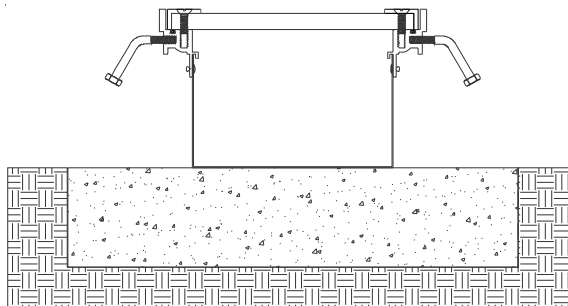

Figure 3
**STEP 4.** Assemble the trench cover on the support pad, splicing the liner and frame sections of the assembly in accordance with the procedures provided in the appropriate sections of these installation instructions (see Figure 3). Refer to the section of these instructions entitled "SPLICING TRENCH AND ACCESS COVER FRAMES" and the section of these instructions entitled "SPLICING TRENCH LINERS" for procedures for assembling the frames and liners. Place the trench cover into the assembled frame. Ensure that the cover is properly aligned in the frame.